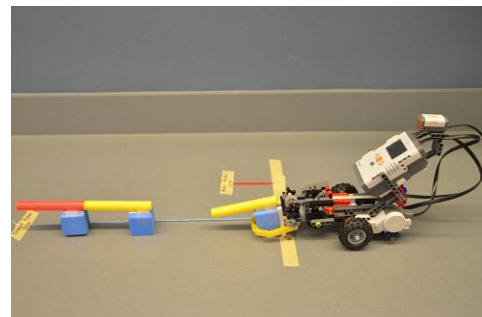

Figure 4
- Using the Robot, grasps another rod held in the gripper by staff, and drives it to the end of the first rod and releases it. See Figure 4